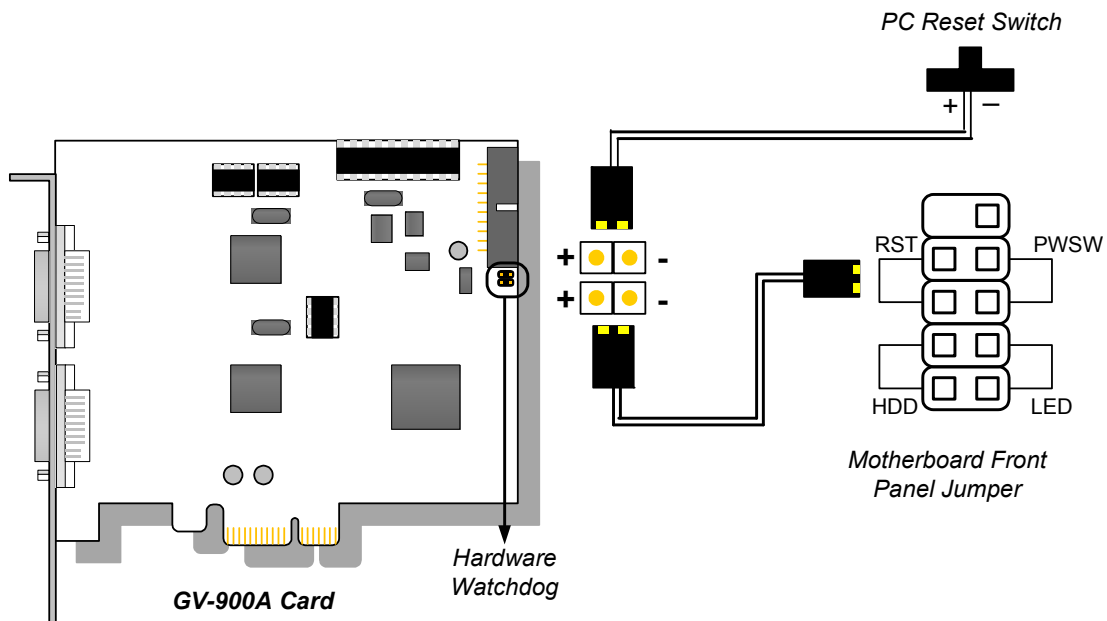

Figure 1-43
- Connect the supplied Hardware Watchdog Jump Wire (Figure 1-43).
- **Hardware Watchdog Connection:** Connect the supplied Hardware Watchdog Jump Wire to the Master Card only (Figure 1-43).